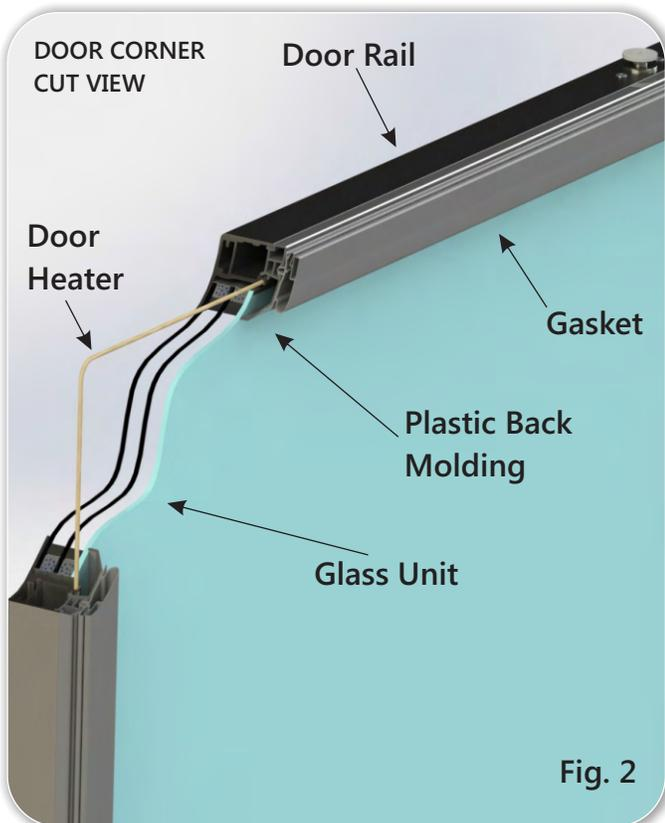

Fig. 2
Refer to Fig. 2 for heater wire location. Remove the heater from the door rail, and cut the leads at the hinge pin power connection.
2. To install a gasket, insert the lip around the inner edge of the gasket into the groove in the plastic on the back of the door (B), then press the dart on the back of the gasket into the plastic on the back of the door (C) (Fig. 2).